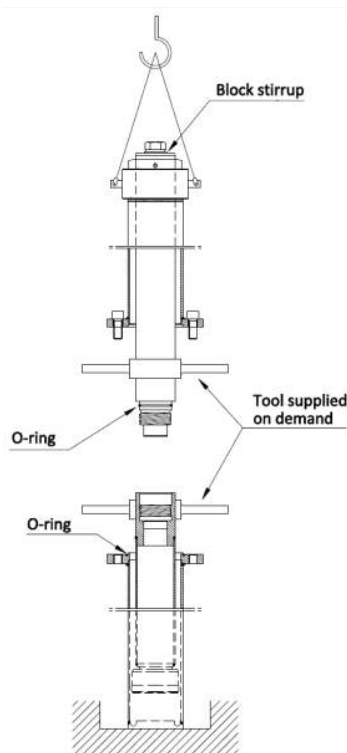
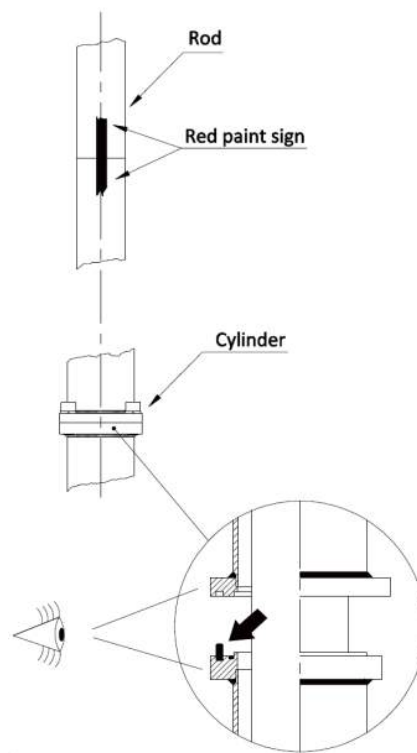

Figure 8 – Cylinder in two pieces with screws
Figure 9 – Rod and cylinder – cylinder in two pieces
Special screwers (see Figure 8) or other tools, insulated with rubber, have to be fixed to the lower part of the rod, laying horizontally, before putting it in a vertical position.
- Follow the next operating instructions for the assembling of the two pieces (see Figure 8 and Figure 9):